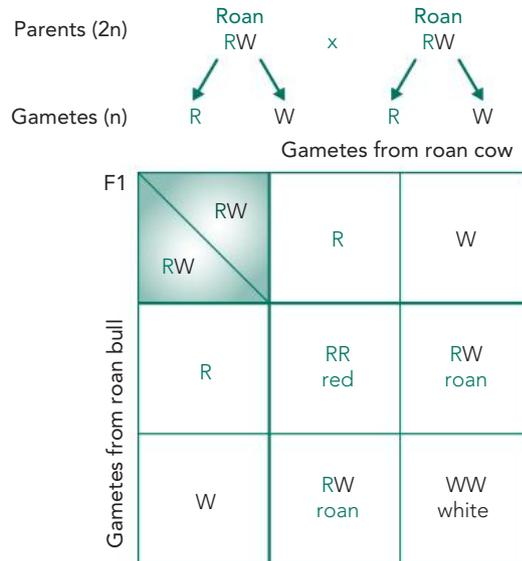

Figure 9.4 Inheritance of roan coat colour
If a roan bull (RW) is mated with a roan cow (RW), the colour of the calves can be red, white or roan. Each male gamete (germ cell, or sex cell) from the roan bull contains either an R or a W gene. Similarly, each female gamete from the roan cow contains either an R or a W gene. The possible combinations of these genes are shown in Figure 9.4. If sufficient roan bulls and cows are mated the proportion of red:roan:white will be 1:2:1.